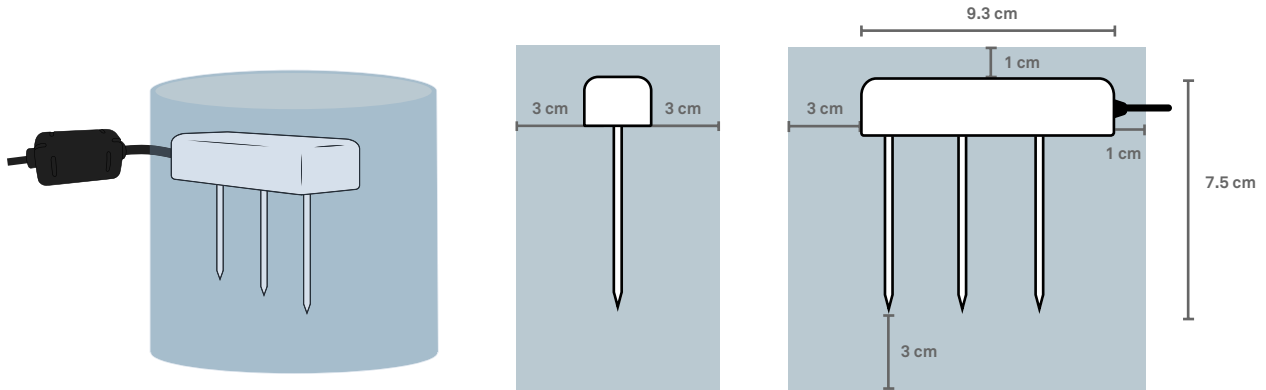

Figure 1. Idealized measurement volume of METER TEROS 12 sensor
1.1.2.1 Note that the measurement volume of the TEROS 12 is quite large (see Figure 1), which has the advantage of averaging over more of the coir.
3.1.1 Coir should be the appropriate size for the sensor selected (see Figure 1), the scale used for mass measurement, and the container used for saturation (32 cm is a common size).